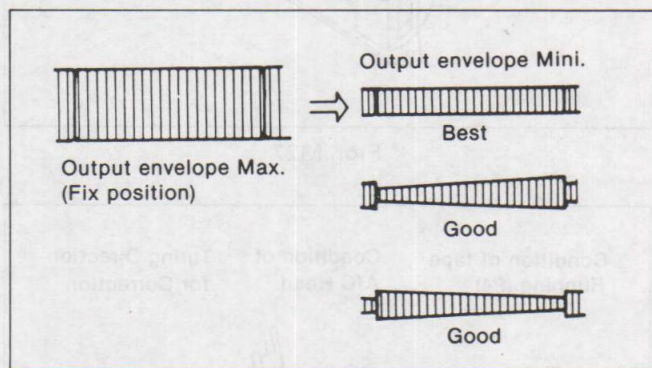

Fig. M24
7. Turn the Tracking VR fully clockwise and counter clockwise. (Keep pressing + button or - button) The output envelope should vary nearly parallel with other condition as shown in Fig. M24.